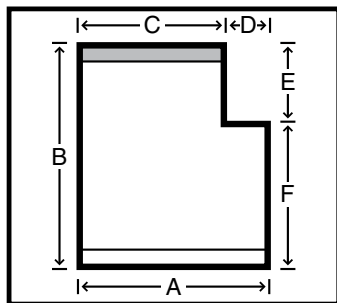

Figure 9 Head Rail Cut Out
- Head rail cut out blinds (Figure 9) are controlled on the opposite side of cut out. Inside mount blinds will raise to the widest width. Outside mount blinds will raise to the head rail.